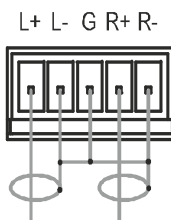

Figure 6: Unbalanced Stereo Audio Input Connection
- An unbalanced stereo audio input connection, see Figure 6